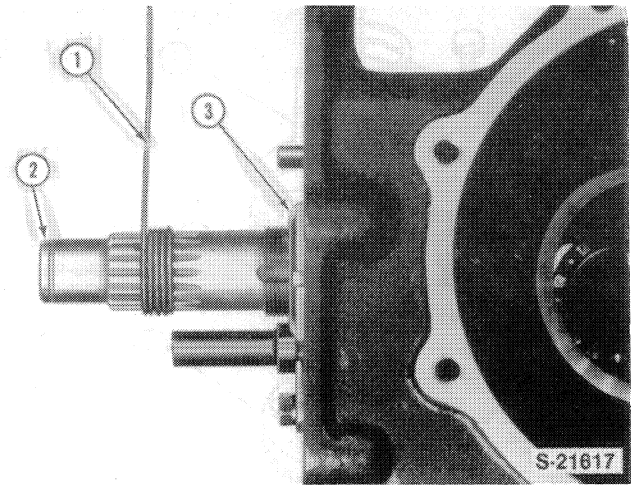

FIGURE 5-44
8. Tighten the locknut, 3, to adjust the pinion pre-load. Using a strong cord wrapped around the pinion shaft and a pull scale, tighten the nut to obtain the specified pounds of constant pull to rotate the pinion assembly, Figure 5-44.